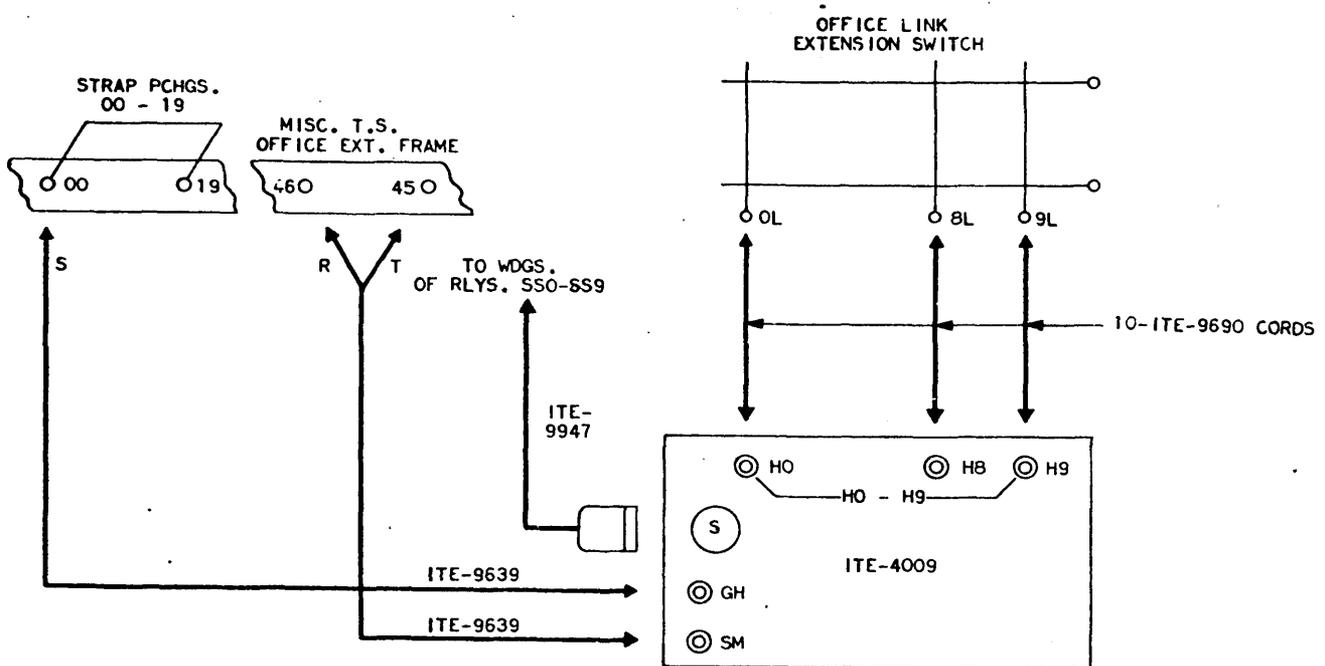

FIG. 16 SETUP FOR TEST OF S1 LEAD CROSSPOINTS ON EXTENSION FRAME (#1 CROSSBAR)
14.31 Make necessary changes in setup as indicated in Figure 16.